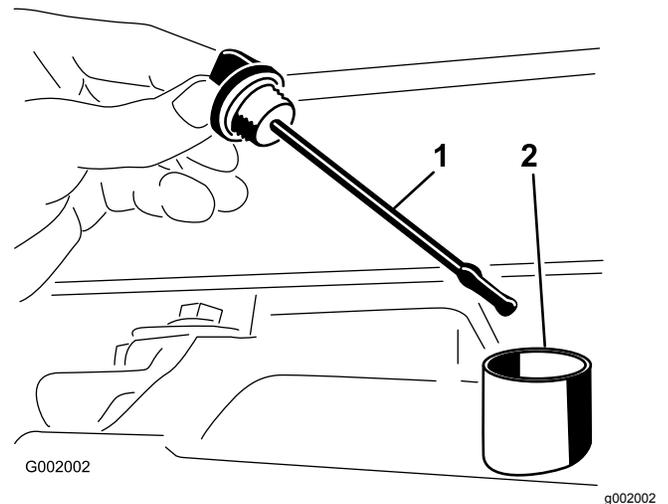

Figure 52
2. Remove the transaxle dipstick and wipe it with a clean rag (Figure 52).